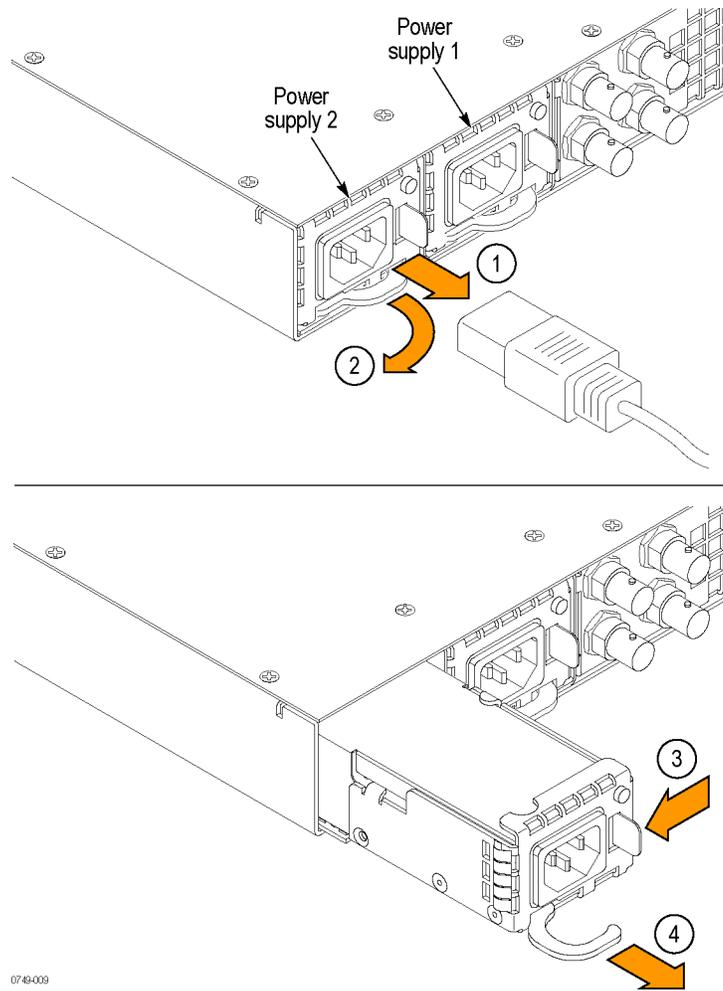

Figure 7: Removing a Power Supply module
CAUTION: To prevent an unexpected shutdown of the instrument, be sure to disconnect the correct power cord if you are replacing a faulty Power Supply module. (See Figure 7.)
2. Pull out the handle located at the bottom of the supply. (See Figure 7.)